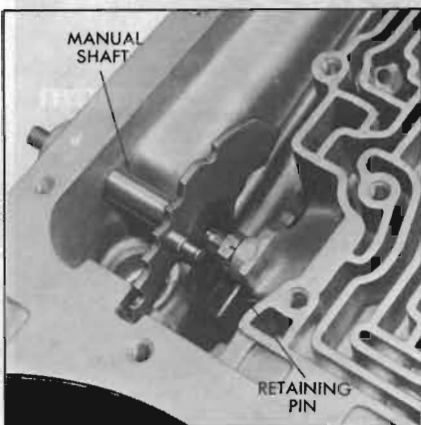

Figure 74-770
6. Install manual shaft retaining pin indexing with groove in manual shaft. See Figure 74-770.